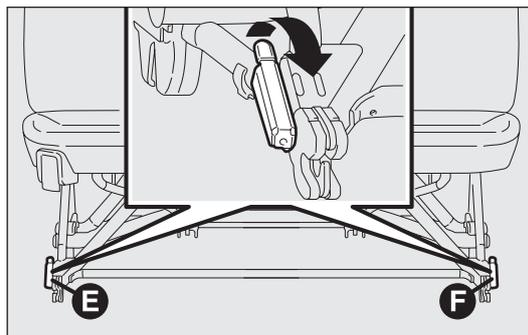

fig. 37
- from the upright position, operate the levers E and F-fig. 37, turning them upward;